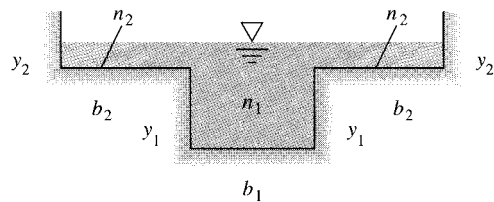

Fig. P10.35
**10.35** In flood stage a natural channel often consists of a deep main channel plus two floodplains, as in Fig. P10.35. The floodplains are often shallow and rough. If the channel has the same slope everywhere, how would you analyze this situation for the discharge? Suppose that  $y_1 = 20$  ft,  $y_2 = 5$  ft,  $b_1 = 40$  ft,  $b_2 = 100$  ft,  $n_1 = 0.020$ ,  $n_2 = 0.040$ , with a slope of 0.0002. Estimate the discharge in  $\text{ft}^3/\text{s}$ .
**10.36** The Blackstone River in northern Rhode Island normally flows at about  $25 \text{ m}^3/\text{s}$  and resembles Fig. P10.35 with a clean-earth center channel,  $b_1 \approx 20 \text{ m}$  and  $y_1 \approx 3 \text{ m}$ . The bed slope is about  $2 \text{ ft}/\text{mi}$ . The sides are heavy brush with  $b_2 \approx 150 \text{ m}$ . During hurricane Carol in 1955, a record flow rate of  $1000 \text{ m}^3/\text{s}$  was estimated. Use this information to estimate the maximum flood depth  $y_2$  during this event.